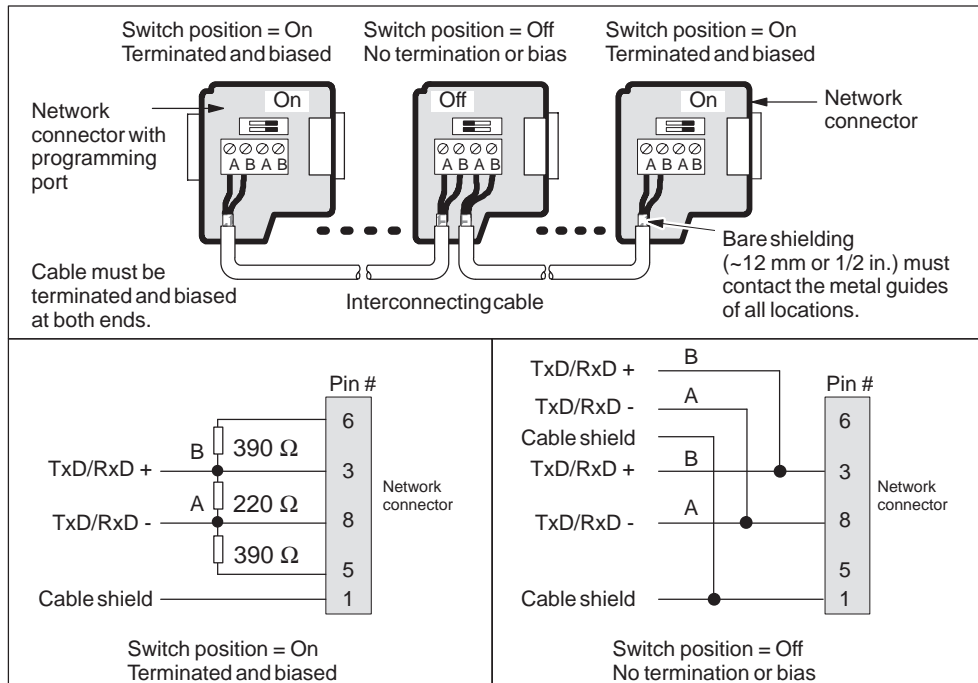

Figure 7-23 Bias and Termination of Interconnecting Cable
- If there are multiple CPUs connected to the remote modem, you will need a Siemens programming port connector on a PROFIBUS network (see Figure 7-23 for the bias and termination of interconnecting cables).
Siemens offers two types of networking connectors that you can use to connect multiple devices to a network easily. Both connectors have two sets of terminal screws to allow you to attach the incoming and outgoing network cables. Both connectors also have switches to bias and terminate the network selectively. One connector type provides only a connection to the CPU. The other adds a programming port (see Figure 7-23). See Appendix E for ordering information.